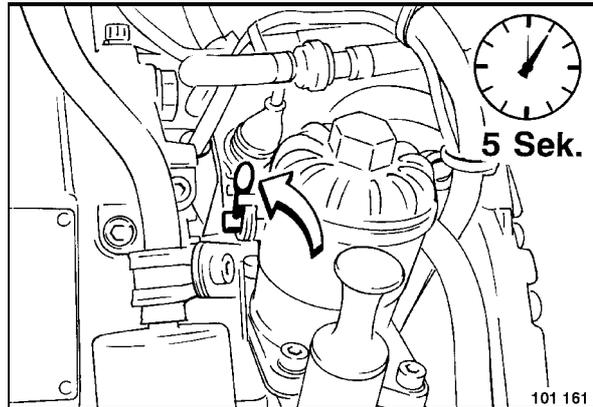

Fig. 11
- Press the hand lever (Fig. 11) for approx. five seconds against the spring.